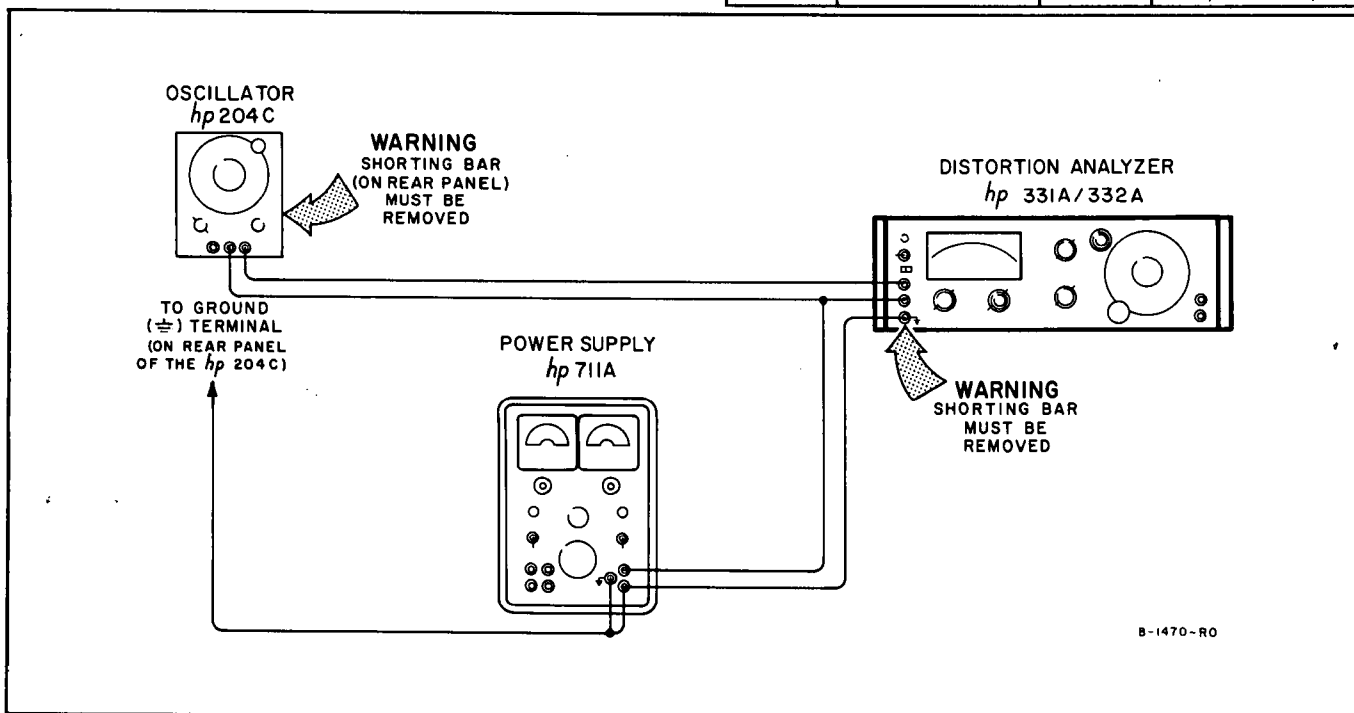

Figure 5-5. DC Isolation Check
- a. Connect test equipment to 331A/332A as shown in Figure 5-5.